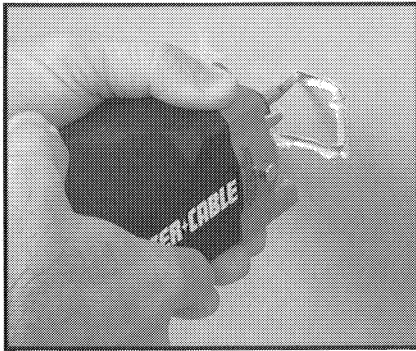

Fig. 6
7. Using the electrical box as a template, move the Drywall Cutout Unit in a counterclockwise direction (maintain slight pressure against the side of the electrical box) to complete the cutout (see Figs. 6–9).